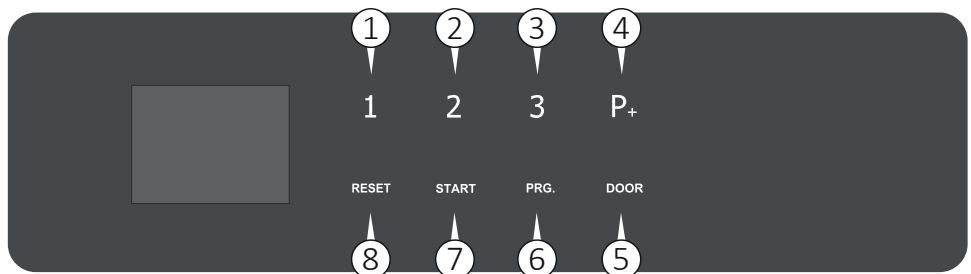

Fig. 15
To select the programs available, use key P1, P2 or P3 (see Fig. 15) depending on the most suitable program for the level of dirt of the load.
- Open the door (key 5 Fig. 15) to introduce the racks.
(5 Fig. 15).
To select the programs available, use key P1, P2, P3 or the key P+ (to select programs from 4 to 40) on the control panel (Fig. 15).
To start a program, press the START key (7 Fig. 15).
The message «Finish» with a green background on the display indicates that the program has been carried out correctly. Unlock the door by pressing the DOOR key (5 Fig. 15) and open it.